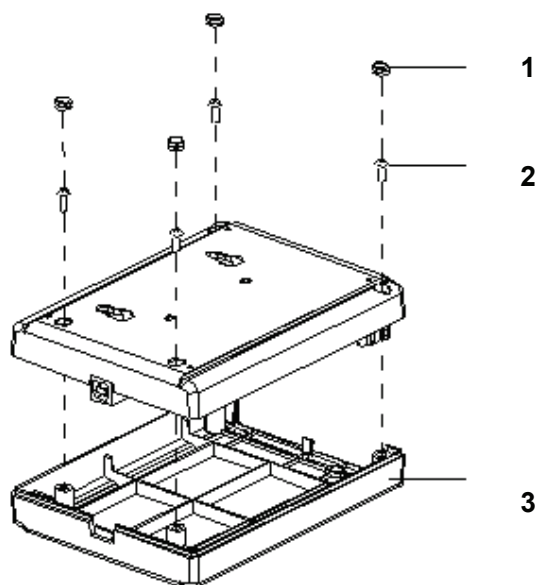

Figure 4-41 Removing ECG Module Enclosure
1) As shown in Figure 4-41, use tweezers to take out four connector enclosure screw caps (use care not to scratch the enclosure), remove four M3X8 screws, and remove ECG module top cover.